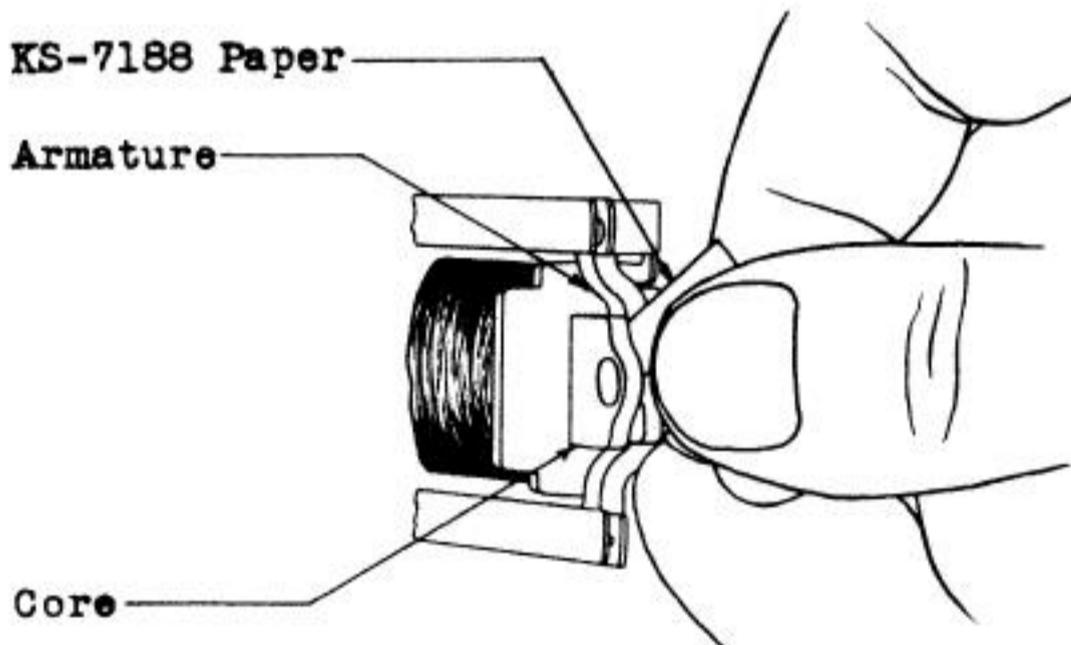

Fig. 22 - Method of Cleaning Armature and Core on A, E, F, H, R, T and AB Type Relays
6.03 Cleaning Armatures and Cores of A, E, F, H, R, T, U, UA, Y and AB Type Relays. Insert KS-7188 paper between the armature and the core (or between the armature and the tip of the adjustable stop pin on F type relays). Press the armature manually toward the core so that a slight pressure exists between the strip of paper and the part being cleaned and then withdraw the paper. Repeat the operation until the paper shows no evidence of dirt when it is removed. Use a clean piece of paper for each operation. See Figs. 22, 23 and 24.